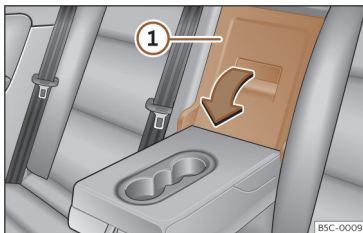

Fig. 185 On the rear seat backrest: opening the tailboard.
- Pull the release lever in the direction of the arrow and push the tailboard cover >>> Fig. 185 ① down and forwards.